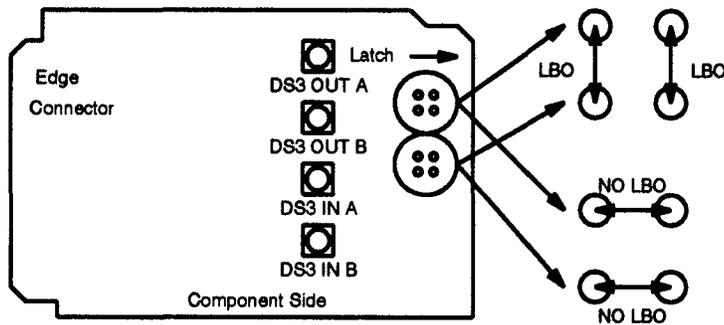

Figure 3. AKM3 ELIU1 Option Settings
26. Refer to **Figure 3** and set the option plugs according to the table above.